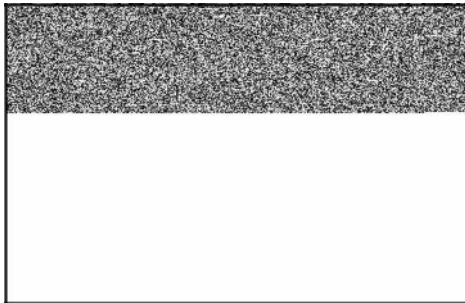

Figure 19
5. Lubricate outside diameter of ball bearing. Place ball bearing on support (A, Figure 19).
6. Insert large end of driver (B) into oil seal bore. Place washer (C) on puller screw (D).